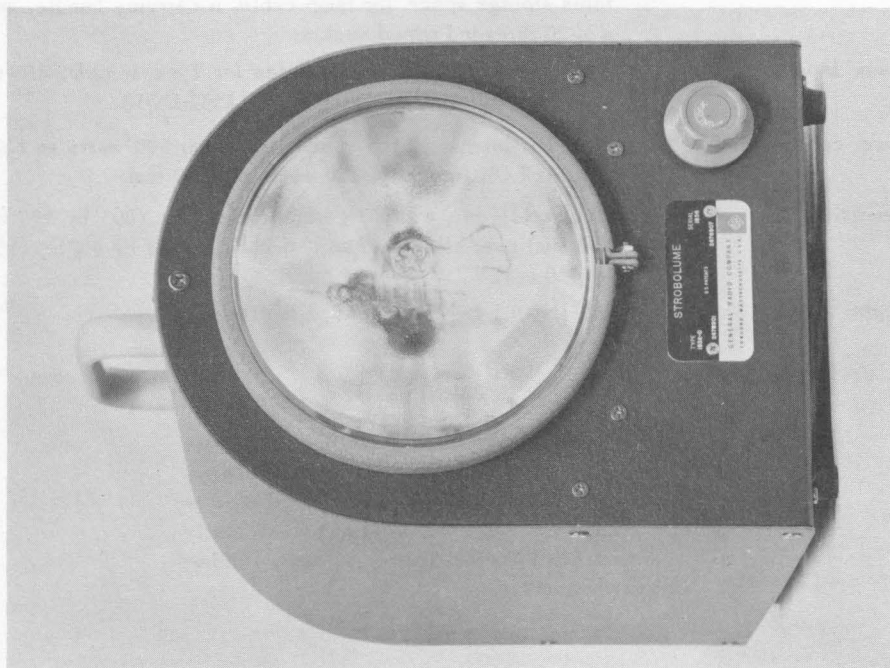

Figure 1. Type 1532-D Strobolume (front view)
1.1 PURPOSE. The Type 1532-D Strobolume (Figures 1 and 2) is a high-intensity light source useful in stroboscopic observations and photography. The illumination is short (between 30 and 40 microseconds) and bright enough to photograph considerable areas and relatively fast motion without blurring. It can be used either for single-flash work or for rates up to 1200 flashes per minute on **HIGH INTENSITY** for short periods, and up to 3000 flashes per minute on **LOW INTENSITY**. These ranges make possible the study of moderate-speed mechanisms, looms, and other textile machinery, fans, propellers, etc. The flashing rate can be controlled by an external contactor such as the Type 1535-B Contactor, or by the Type 1531-A Strobotac® Electronic Stroboscope (refer to paragraph 1.2.3.2).